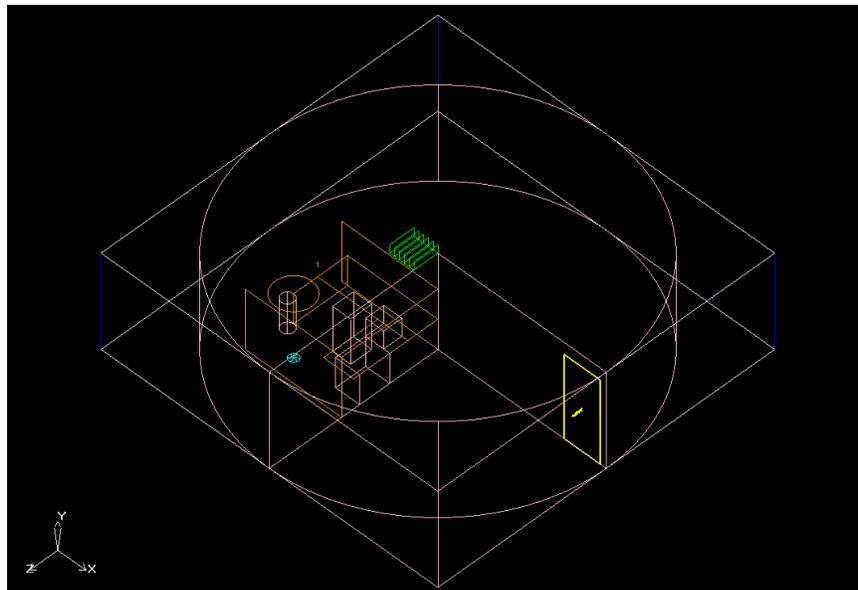

Figure 4.19: Model of Room with Office, Fan, Vent, Walls, and Doorway
*The completed Airpak model is shown in Figure 4.19.*